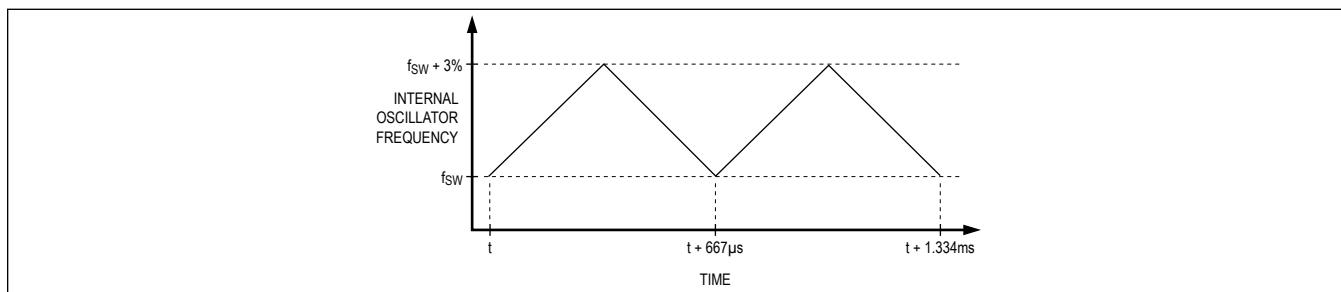

Figure 2. Effect of Spread Spectrum on Internal Oscillator
The PMICs feature a linear spread-spectrum (SS) operation, which varies the internal operating frequency between f_{SW} and $(f_{\text{SW}} + 3\%)$. The internal oscillator is frequency modulated at a rate of 1.5kHz with a frequency deviation of 3% (see Figure 2). This function does not apply to an oscillation frequency applied externally through the SYNC pin. Spread spectrum is a factory-selectable option. See the Selector Guide for available options.